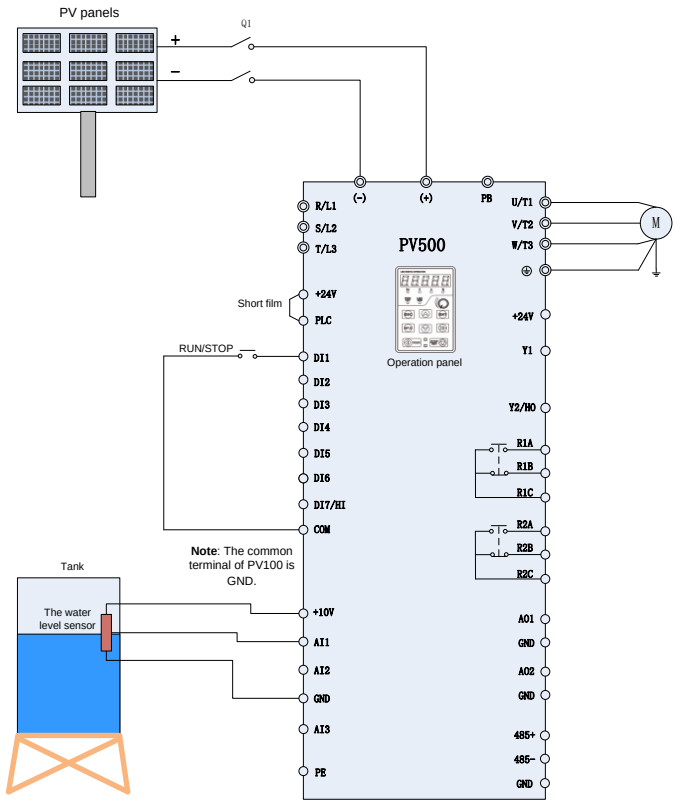

Figure 2-1 PV500 Cell Power Supply Wiring Diagram
1. Wiring drawings of below inverters shown as Figure 2-1&2-2: PV150A series, PV500 series.
1. Please wirings as Figure2-1&Figure2-2 according to different inverter powers, check and confirm the wirings to be correct, and then close Q1.